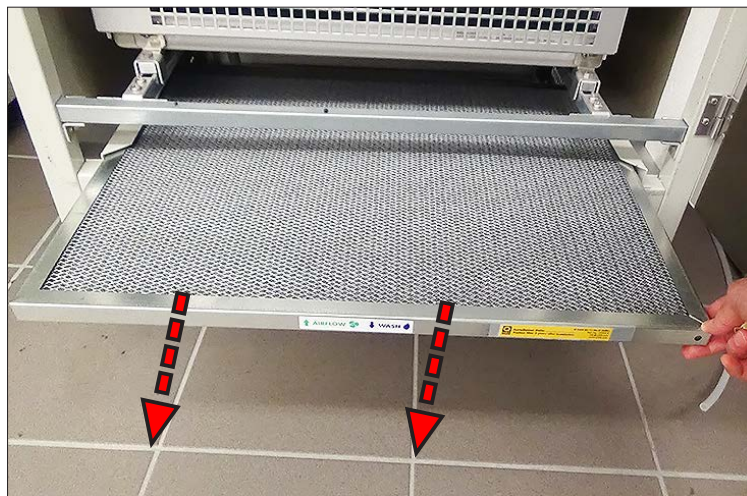

Figure 16.5c: Remove Air Filter to Inspect
- Remove and inspect the chiller air filter every month (Figure 16.5c).
- Washable air filters in service for more than three (3) years must be replaced (see Section 18 for part numbers).
- Washable air filters in service for less than three (3) years can be cleaned as shown in the Washable Air Filter Cleaning instructions.